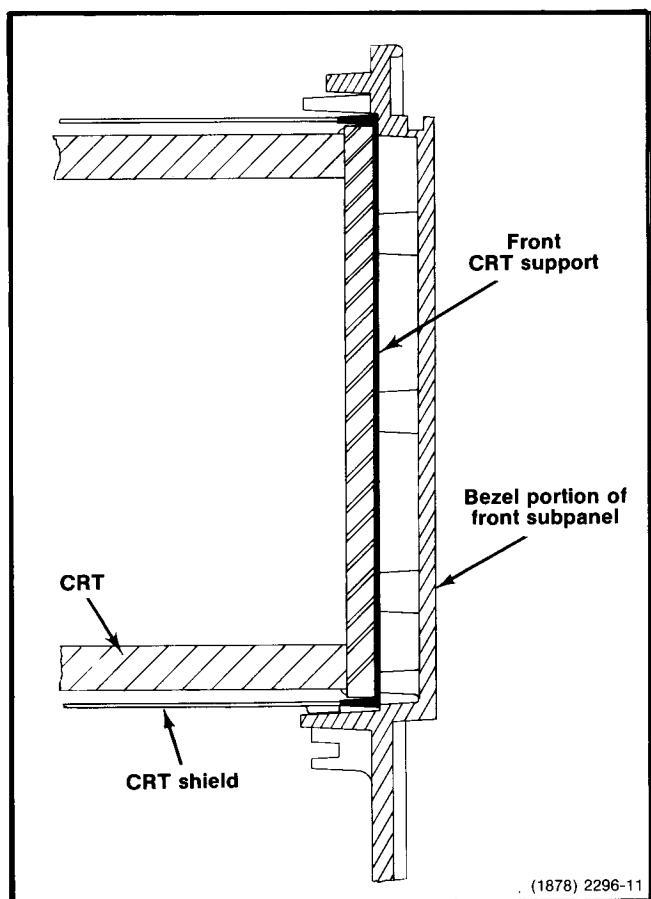

Fig. 5-2. Cross sectional view showing placement position of front crt support, crt shield, and crt.
- b. Remove the implosion shield filter (1) and the implosion shield spring (2).
- c. Disconnect the FOCUS extension shaft (3) from the focus potentiometer.
- d. Loosen the black screw (4). Remove the three screws holding the rear panel bracket and remove the rear panel bracket.
- e. Remove the screw (5) holding the horizontal deflection circuit board. Disconnect the two horizontal crt deflection pin leads. Lift the board straight up, disconnecting the square pins at the bottom.
- g. Remove the two screws (6) that secure the high voltage cover and remove the cover (7). Remove the eight screws (8) holding the rear panel (9) and remove the panel.
- h. Disconnect the crt socket (10); then remove the crt shield with the crt inside.
- a. Install the front crt support spacer (11) into the rear bezel opening of the front subpanel (12).
- b. Install the crt in the crt shield; then install the assembly in the oscilloscope. During installation, be careful not to bend the protruding connector pins. Place the crt shield (13) against the front crt support spacer. Push the crt into the front crt support. See Fig. 5-2. Connect the crt socket to the crt. Hold the crt assembly in position and install the rear panel with enough screws to hold the crt assembly in place.